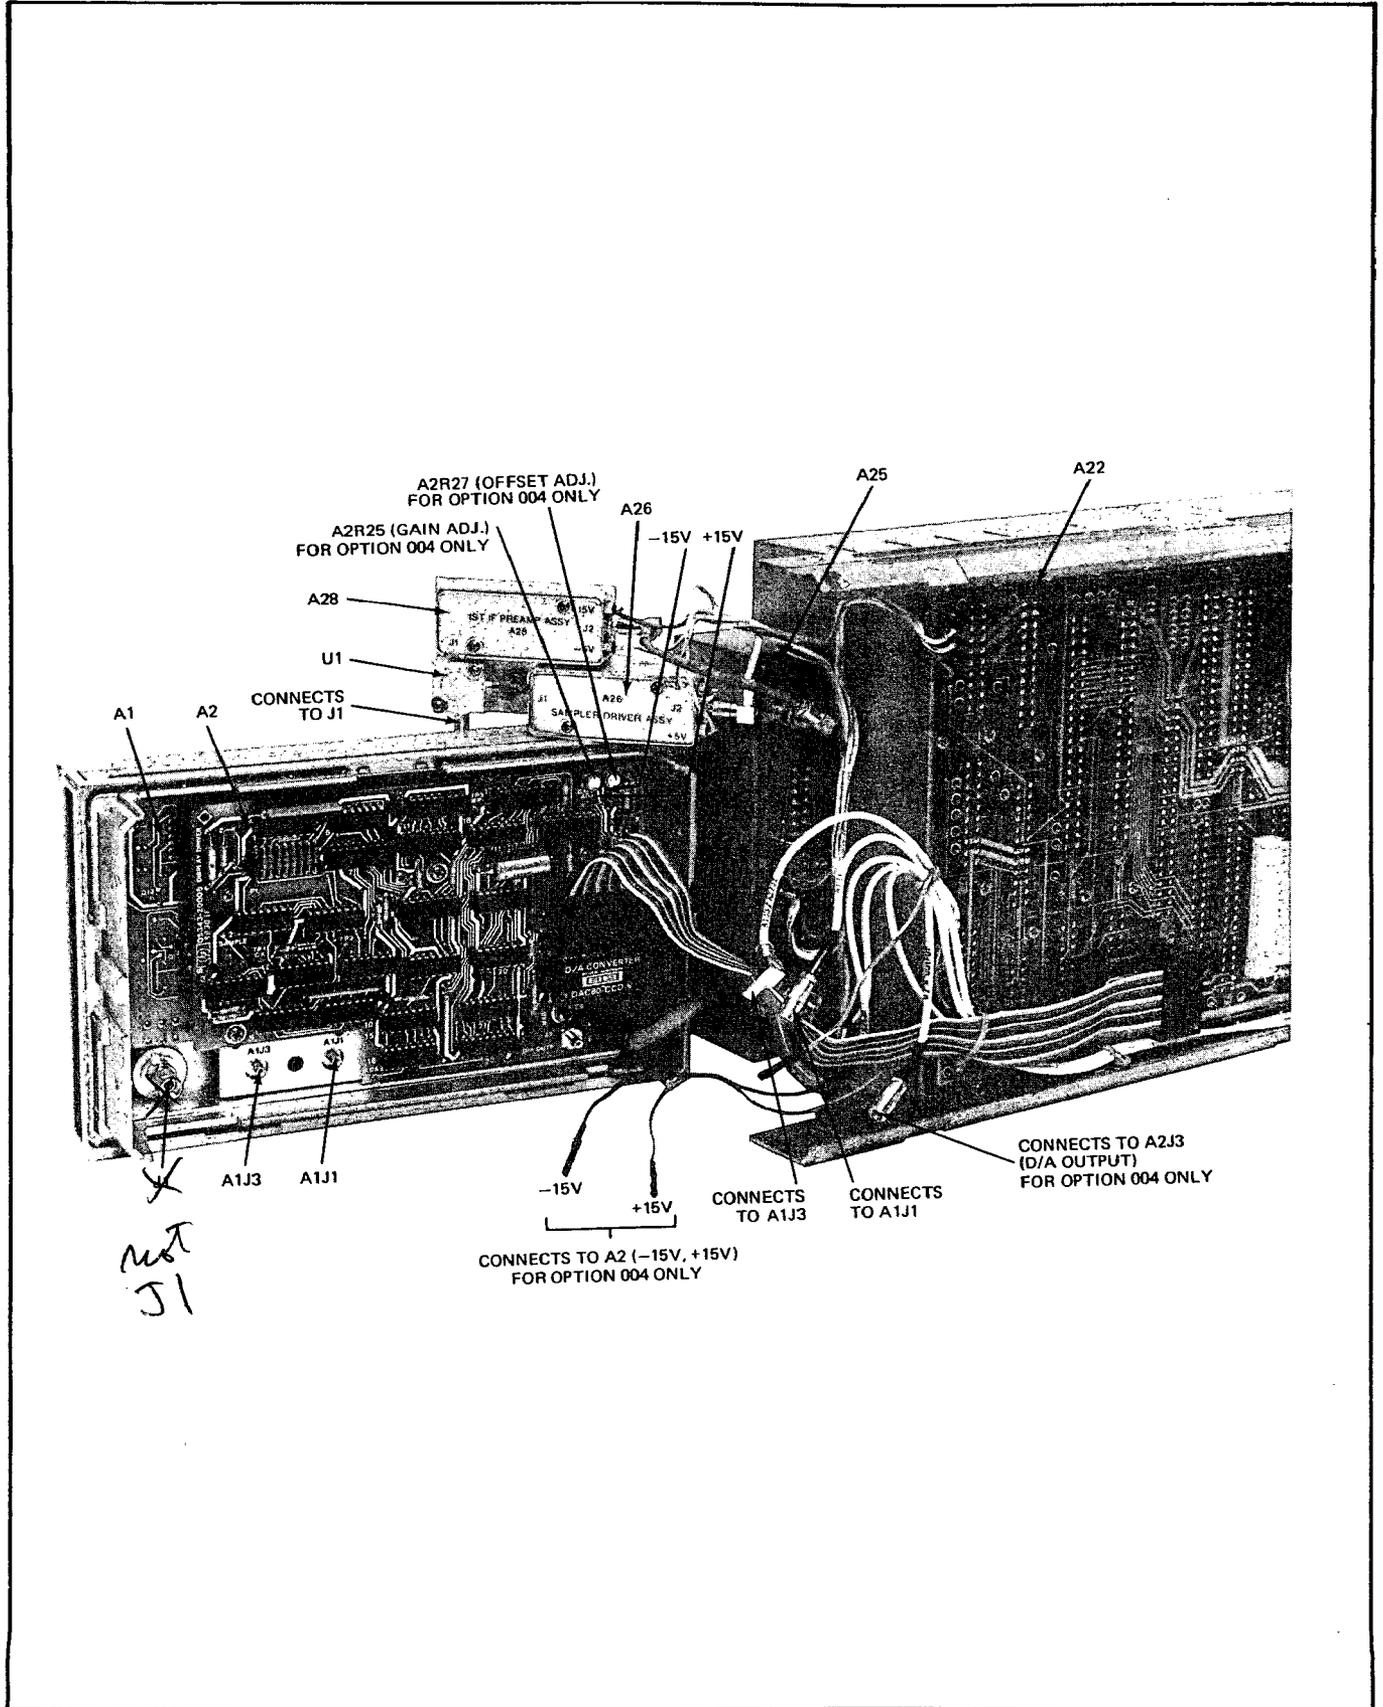

Figure 8-2. Front Frame, A26, A28, and U1 Removal
- b. Remove two screws from front of each side strut attaching front panel frame. See *Figure 8-2*. Pull front out slightly to allow access to wiring.
- f. The front panel frame (containing assemblies A1 and A2) can now be moved freely within limits of the power cable, as shown in *Figure 8-2*.